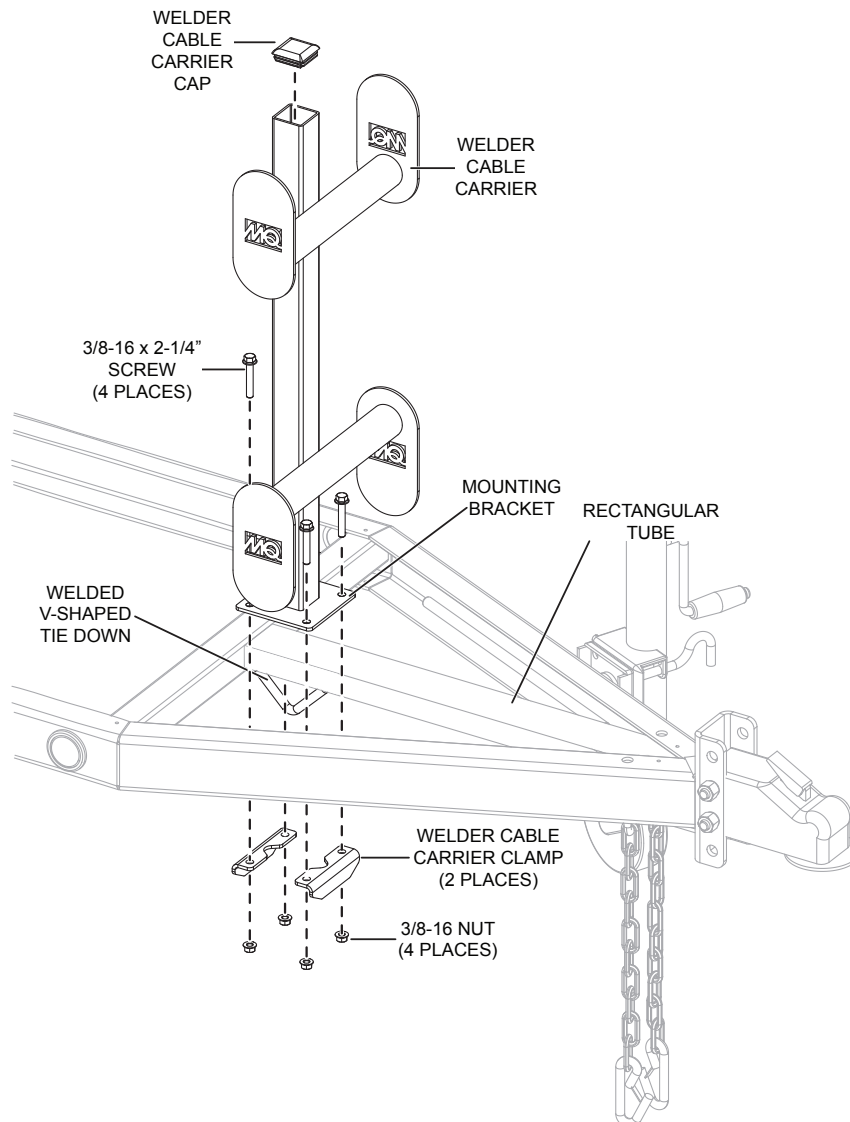

Figure 2. Welder Cable Carrier Installation
2. Place the welder cable carrier mounting bracket onto the rectangular tube located at the tongue of the trailer frame as shown in Figure 2.
8. Using a 9/16" socket and open ended wrench, secure the welder cable carrier to the rectangular tube (Figure 2) with the four 3/8-16 x 2.25" HHFS screws and 3/8-16 nuts.
10. Mount and secure the welder cable carrier cap as shown in Figure 2.